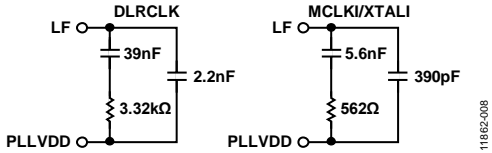
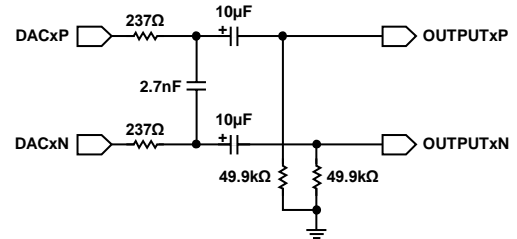
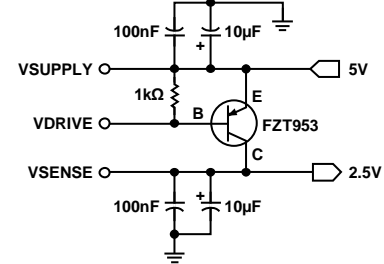
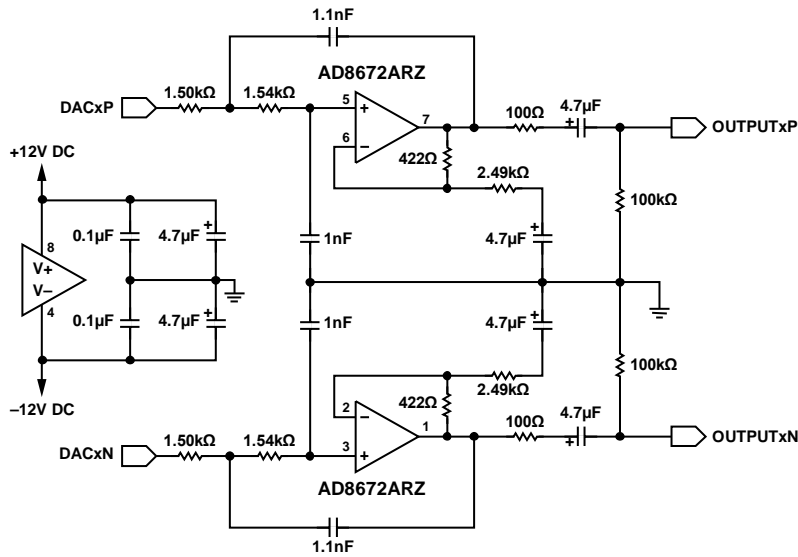

Figure 8. Recommended Loop Filters for DLRCLK and MCLKI/XTALI Reference Modes
Figure 9. Typical DAC Output Passive Filter Circuit (Differential)
Figure 10. Recommended External Regulator Circuit
Figure 11. Typical DAC Output Active Filter Circuit (Differential)
Typical application circuits are shown in Figure 8 to Figure 11. Recommended loop filters for the DLRCLK and MCLKI/XTALI modes of the PLL reference are shown in Figure 8. Output filters for the DAC outputs are shown in Figure 9 and Figure 11, and a recommended external regulator circuit is shown in Figure 10.
The differential analog outputs require a mere single-order, passive differential resistor-capacitor (RC) filter to provide the specified DNR performance (see Figure 9 for an example filter). The outputs can easily drive differential inputs on a separate printed circuit board (PCB) through cabling, as well as differential inputs on the same PCB.
If more signal level is required or if a more robust filter is needed, a single op amp gain stage, designed as a second-order, low-pass Bessel filter, can be used to remove the high frequency out-of-band noise present on each pin of the differential outputs. The choice of components and design of this circuit are critical to obtaining the full DNR yield of the DACs (see the recommended passive and active circuits in Figure 9 and Figure 11). This filter can be built into an active differential amplifier to provide a single-ended output with gain, if necessary. Note that the use of op amps with low slew rate or low bandwidth can cause high frequency noise and tones to fold down into the audio band; exercise care when selecting these components.
The ADAU1962 PLL can also be programmed to run from an external LRCLK without an external master clock. Setting the PLLIN bits in the PLL_CLK_CTRL0 register to 0b01 and connecting the appropriate loop filter to the LF pin (see Figure 8), the ADAU1962 PLL generates all of the necessary internal clocks for operation with no external master clock. This mode reduces the number of high frequency signals in the design, reducing EMI emissions.